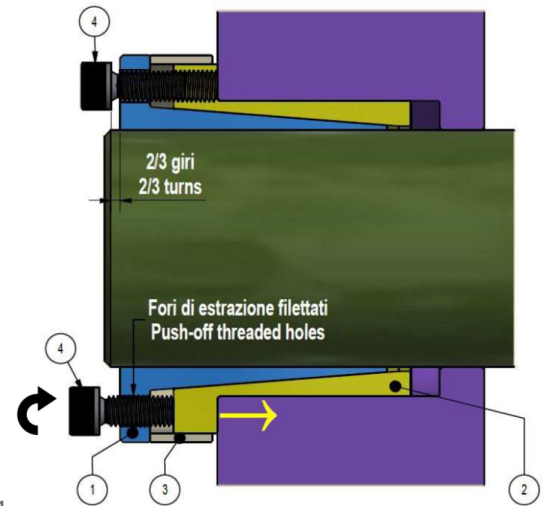

Fig. 5
2. Loosen all screws by two/three turns; then transfer some screws into all push-off threaded holes in the inner ring. **Progressively tighten these screws in a crosswise pattern, using approx. 1/4 turns for several passes** until the outer ring is released (fig. 5). Start with a screw located at 90° approx. respect to slit; screws adjacent to slit shall be tightened in a row.